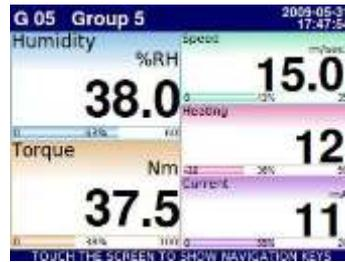

Fig. 6.9. Examples of **Numerical Values** presentation mode
All the channels of the current group are simultaneously presented in the same mode. In the current version of software there is no possibility to mix different modes in one view. Figures 6.9 ÷ 6.14 show examples of different views. Switching between visualisation modes can be performed by pressing the buttons [MODE↑] or [MODE↓] in the **Navigation bar** (see **Chapter 6.3.2. Navigation bar**). Switching between groups can be performed by pressing the buttons [GROUP↑] or [GROUP↓].
- as numerical values Fig. 6.9